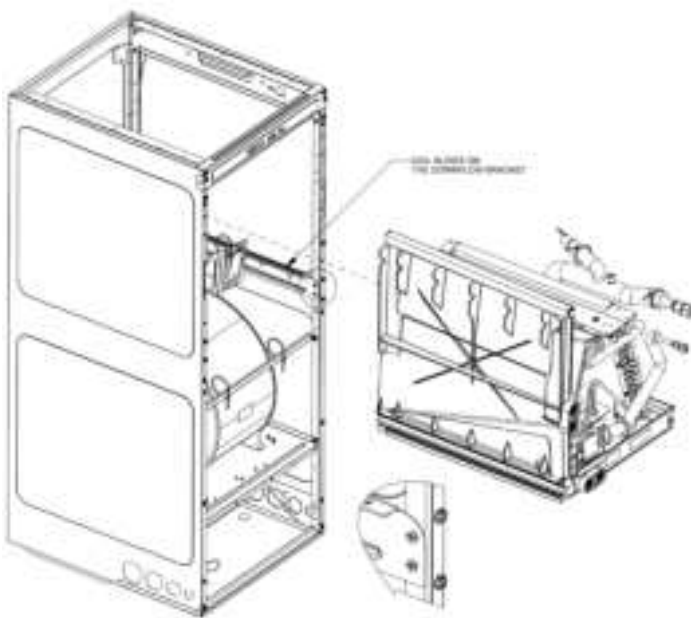

Figure 12
4. Using the bottom drain pan to hold the coil assembly, slide the coil assembly back into the cabinet on the downflow brackets as shown in Figure 12.